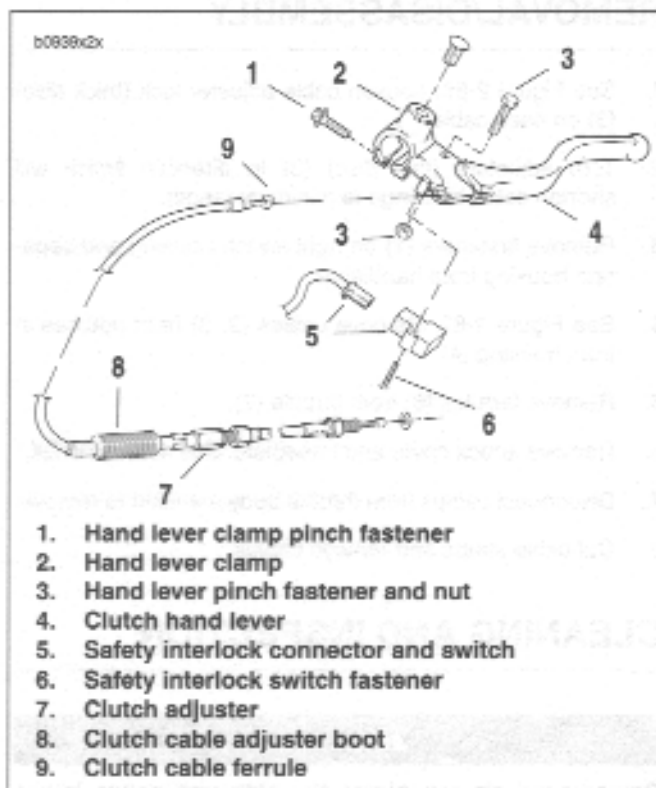

Figure 2-88. Clutch Hand Control Assembly
2. See Figure 2-88. Slide clutch cable adjuster boot (8) up to access clutch adjuster (7).
3. Loosen clutch adjuster (7) to release tension from hand lever (4).
4. Remove clutch cable ferrule (9) from hand lever (4).
5. Remove hand lever pinch bolt (3).
6. Remove hand lever (4) from hand lever clamp (2).
7. Remove safety interlock switch (5).
- a. Remove hand lever clamp fastener (1) and spin clamp (2) to access safety interlock switch (5).
- b. Disconnect safety interlock switch connector (5) and remove switch fastener (6) and switch (5).
1. See Figure 2-88. Slide hand lever clutch clamp (2) over left clip-on. Loosely tighten hand lever pinch fastener and nut (3).
3. Connect safety interlock connector and switch (5).
4. Install safety interlock switch (5) with fastener (6) tightening to 7-10 in-lbs (0.8-1.0 Nm).